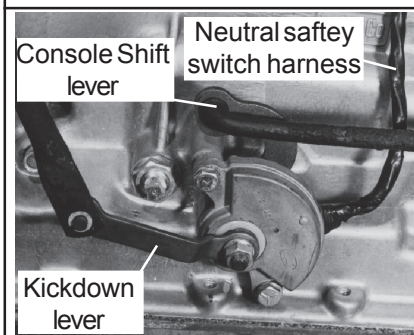

Figure 2
**Console Shift Models:** Disconnect rod from shift lever on transmission. (See Fig. 2) The rod is retained by a clip or by snapping into a plastic grommet. Remove clip or pry rod out of grommet and allow linkage to hang free.
**Console Shift Models:** Connect rod to shift lever on transmission. (See Fig. 2) Snap rod into grommet retainers by squeezing rod and lever together with a pair of pliers. Connect rod to clip retainer levers and install clip.